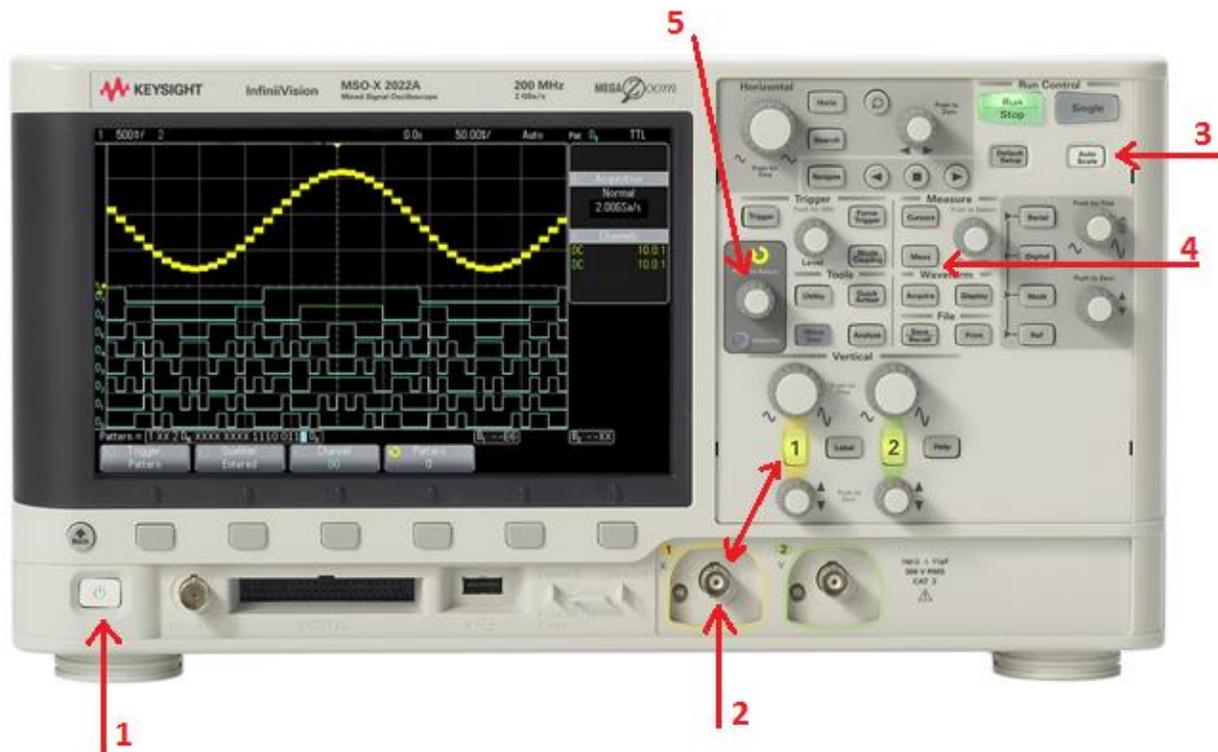

Figure 1: Digital oscilloscope.
STEP ONE: Set the oscilloscope controls as follows (Figure 1):
Since oscilloscope is a measuring device, the coaxial cables with BNC are employed to apply an AC signal. A coaxial cable with BNC (Figure 2) is illustrated in Figure 2. Different steps of setting up a digital oscilloscope is shown in Figure 1 as following:
2. Apply coaxial cable to a desired channel. In figure 1, channel 1 was chosen and at the same time the front panel knob related to this channel is pushed.